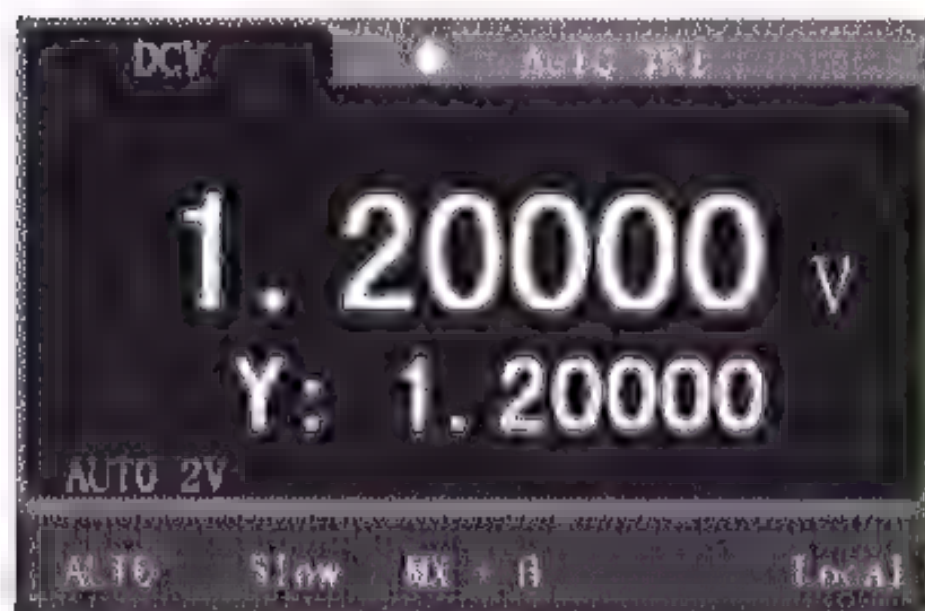
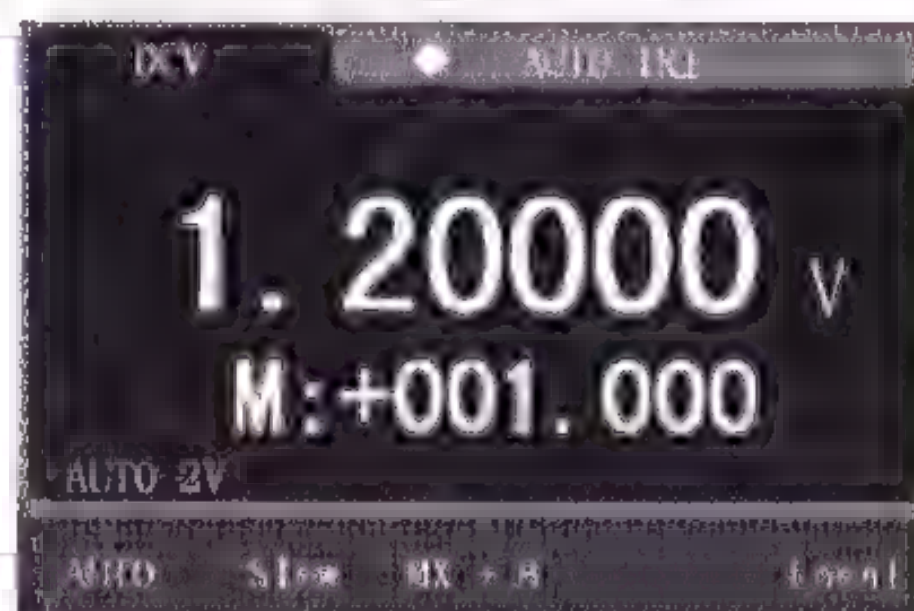

Figure 5-2 MX + B measurement interface
Figure 5-3 M value modified interface
Press  key to select the MX + B function, as shown in Figure 5-2. Press the key again to exit the MX + B function.
- 2) In the interface shown in Figure 5-2, press the Enter key to call up the M value modification interface, as shown in Figure 5-3. The value of M can be modified by the use of up / down / left / right arrow key
- 3) In the interface shown in Figure 5-3, press the Enter key to call up the B value modification interface. The value of B can be modified by the use of up / down / left / right arrow key